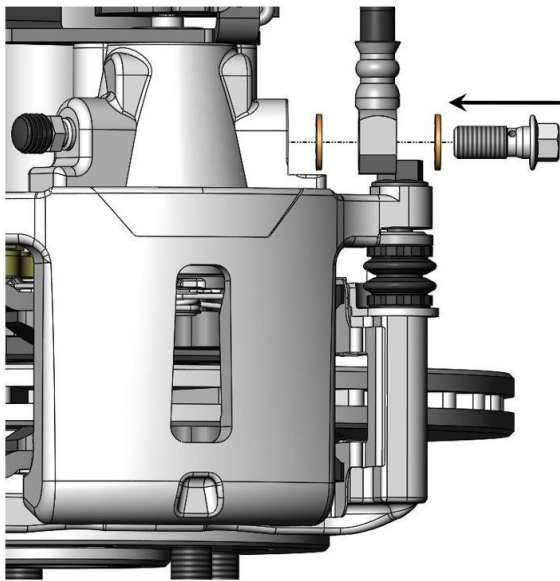
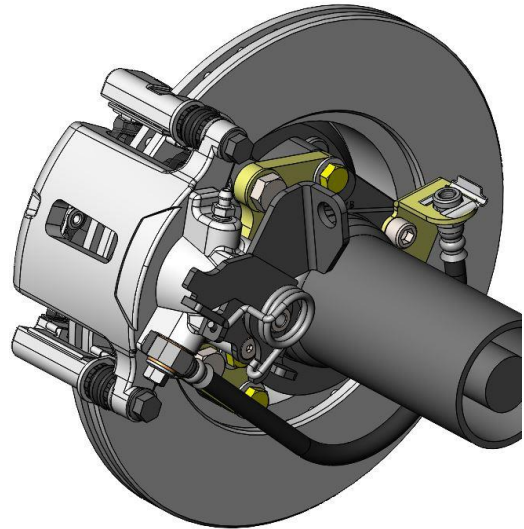

Figure 9a –Flexible Brake Hose Attachment to Caliper
Figure 9b – Brake Hose Attached at the Rear Axle Housing
12. Install the flexible brake hose. Attach the brake hose to the caliper using the provided banjo bolt and copper crush washers as shown in Figure 9a on the next page. Next route the hose under the axle tube and attach it to the previously installed Brake Hose Mounting Bracket with the provided clip. Attach the hardline to the brake hose. **NOTE: Depending on the location and fitting size on the OEM hardline, it may be necessary to shorten and re-flare along with slightly bending the hardline to line up properly.** Proper installation of the flexible brake hose can be seen in Figure 9b on the next page.